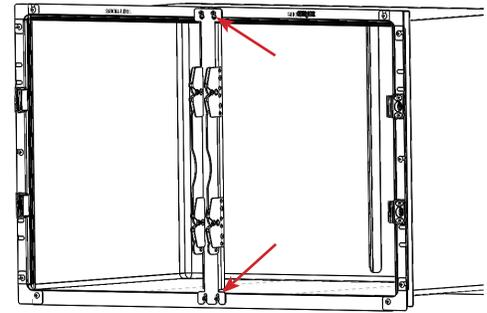

FIGURE 2.19 - Latch Bar Installation
STEP 6: The double door conversion kit includes a latch bar equipped with jamb seals. Follow the latch bar removal procedures (reverse order) to install the new latch bar assembly. See FIGURE 2.19